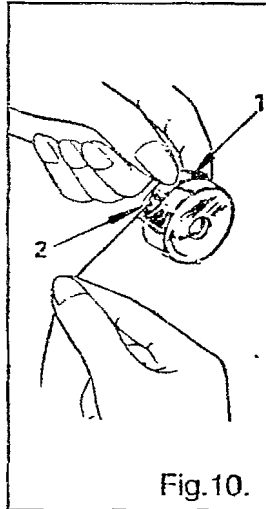
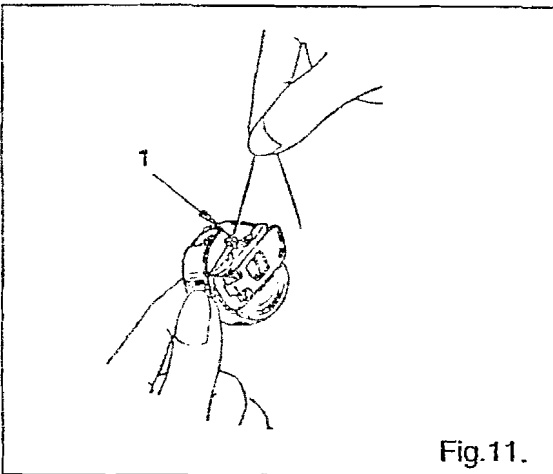

Fig.10.
Fig.11.
2. Draw thread out from slot 2 on end of spring 1. (Fig.10) and pass it through bobbin case thread guide (1), allow about 60mm of thread out of the bobbin. (Fig.11)